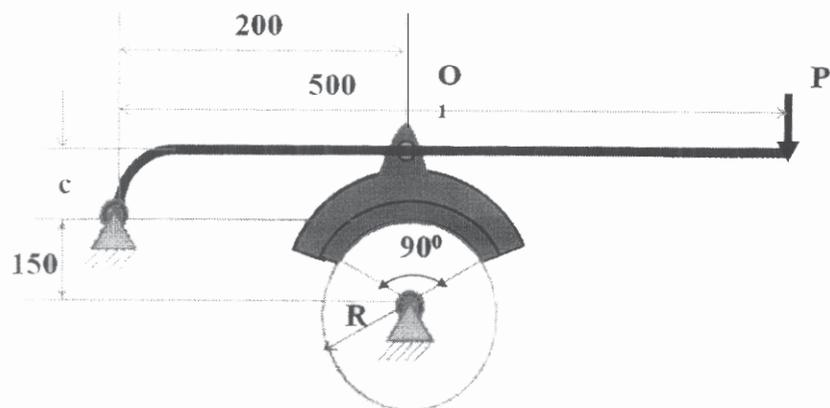

Figure 1
- b) Figure 1 shows the arrangement and dimensions of a pivoted block brake with a face width of 50 mm. The coefficient of friction and the permissible intensity of pressure between the friction lining and the brake drum are 0.25 and 0.55 N/mm² respectively. If the pivot of the shoe is located such that the moment of frictional force on shoe about the pivot is zero. Calculate [12]